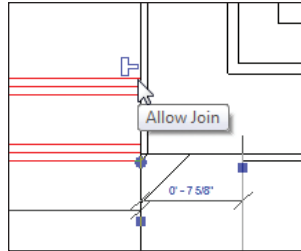

FIGURE 2.58 Allowing the walls to join back again
5. After the wall is un-joined, you can pick the same blue grip and slide the wall back to where you would want it to terminate. Of course, you will have to do this manually (see Figure 2.58).
7. Notice there is an additional blue T-shaped icon. Hover your cursor over this icon; you will see that you can pick this icon to allow the walls to join back up again, as shown in Figure 2.58.